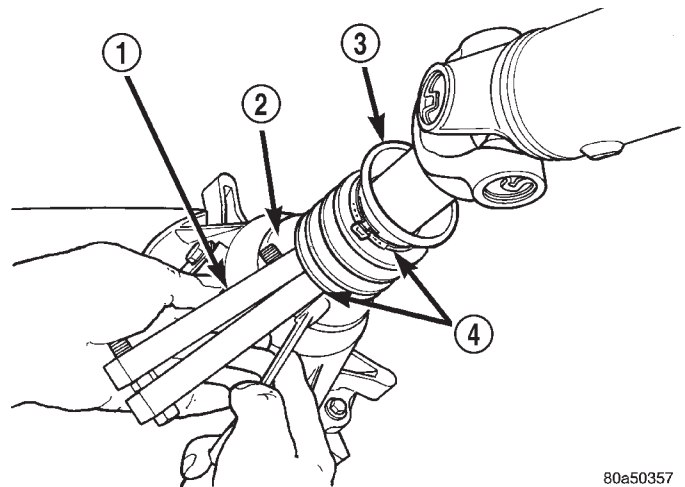
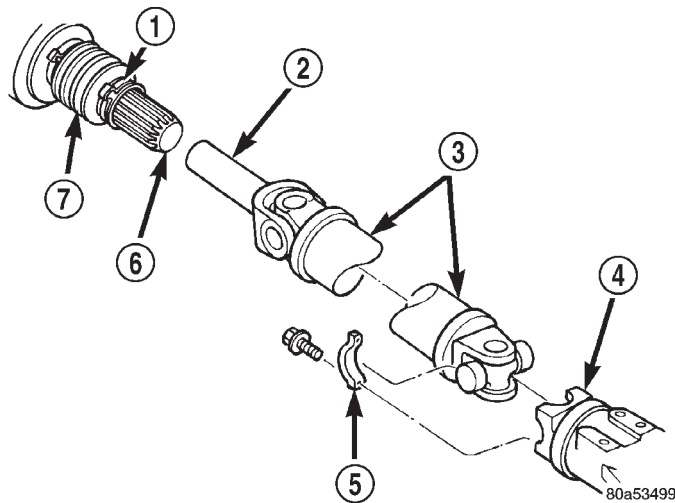

Fig. 17 Crimping Dust Boot Clamp
Fig. 16 Rear Propeller Shaft
- (6) Slide the slip yoke off of the transmission/transfer case output shaft and remove the propeller shaft (Fig. 16).
- (1) Slide the slip yoke on the transmission/transfer case output shaft. Align the installation reference marks at the axle yoke and install the propeller shaft (Fig. 16).
- (2) Tighten the U-joint strap/clamp bolts at the axle yoke to 19 N·m (14 ft. lbs.) torque.
- (3) Crimp clamp to hold dust boot to propeller shaft yoke (Fig. 17).